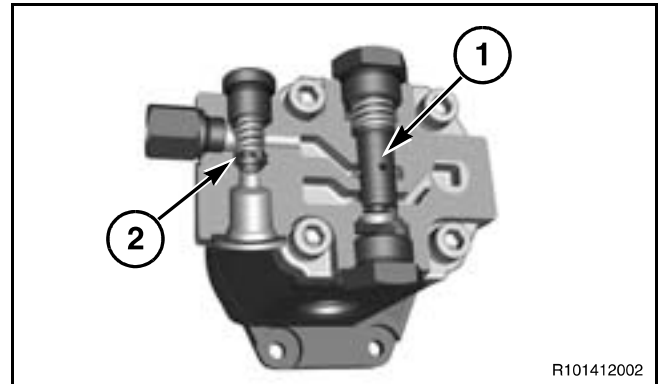

FIG. 4
FIG. 4: Movement of spool is initiated by higher flow and increase in pressure induced force which is transmitted to spool end (via drilling). This pressure moves spool against spring force plus service pressure (via drilling). Force difference at each end of spool is determined by flow through control orifice (1) and spool stays in a balanced position.